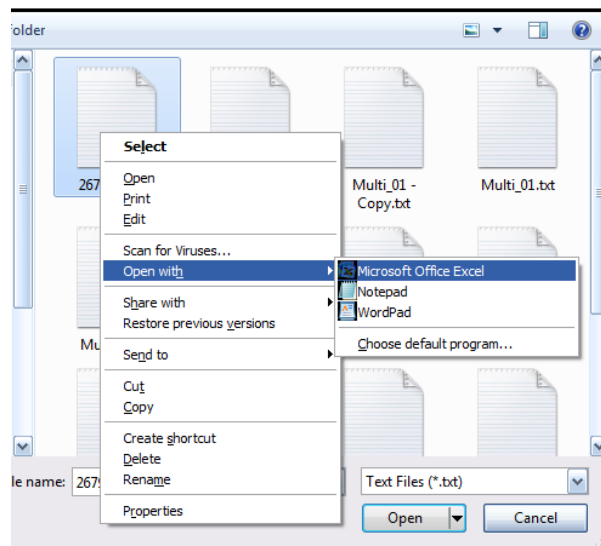

Figure 11-7 Open File Dialog Box
5. From the pop-up menu select **Open With – Microsoft Office Excel** (see Figure 11-7).